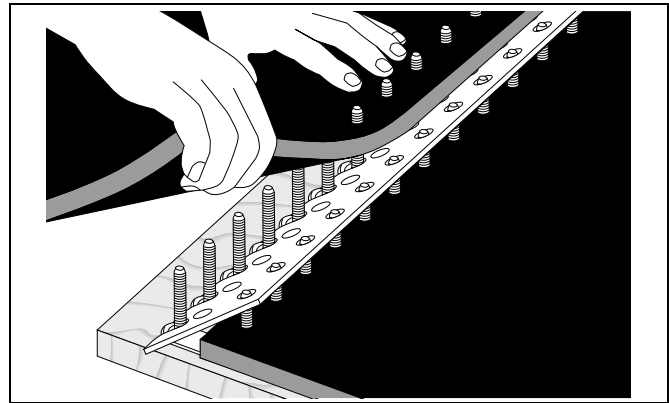

Figure 4H
5. Using the notches in the templet to align the opposite row of bolts, place the end of the belt over the bolts. Press belt onto bolts with hands. Remove templet. Continue to press belt until it is in place. (See Figure 4H.)